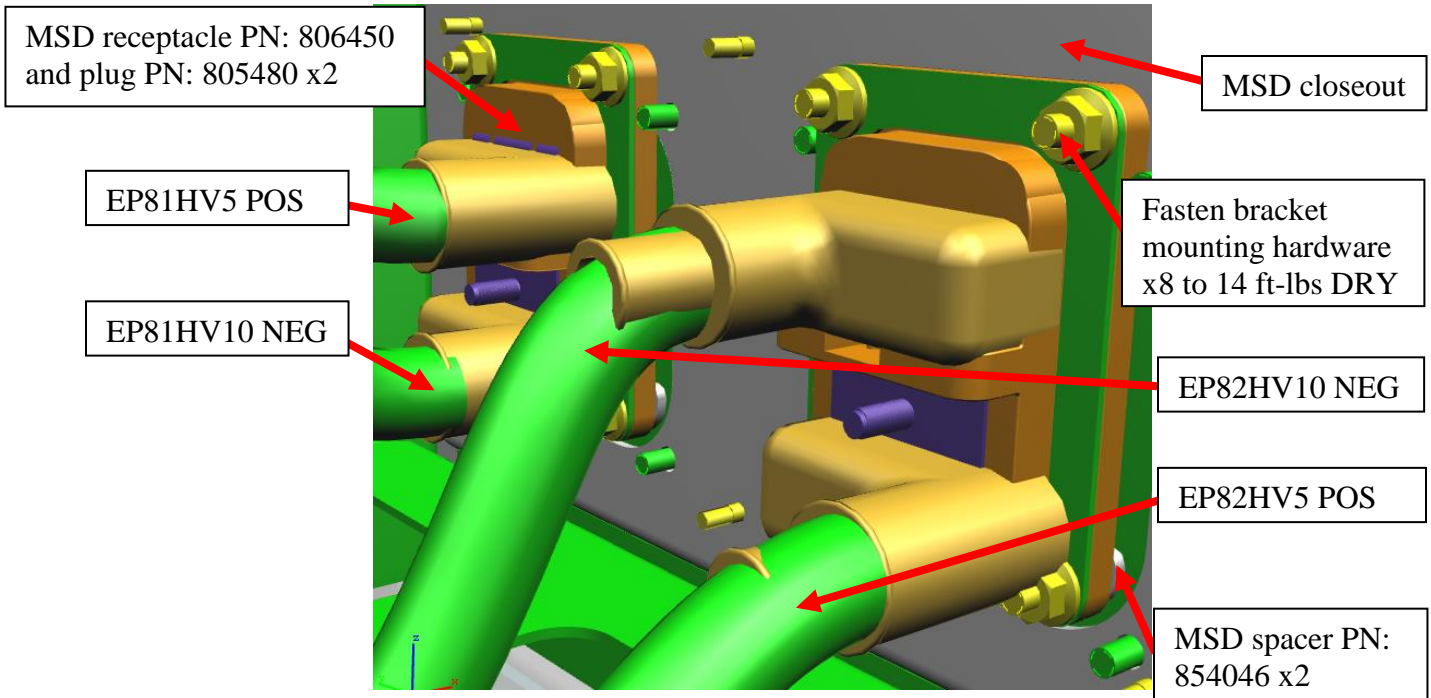

Figure 17: Backside of new MSDs mounted to MSD closeout
- 3.4.3 Using bolts PN: (822309) x8, washers PN: (260173) x8, nuts PN: (75NM06000) x8 and spacer PN: (854046) x2, assemble MSD receptacles PN: (806450) x2 and plugs PN: (805480) x2 onto bracket PN: (853975). Torque all MSD mounting hardware bolts x8 to 14 ft-lbs (DRY). See figure 17.
- 3.4.4 Feed HV cables through MSD closeout and fasten to new MSD receptacle PN: (806450) x2 studs with nuts x4 kept from step 3.2, torque nuts to 80 in-lbs (DRY). See figure 17.